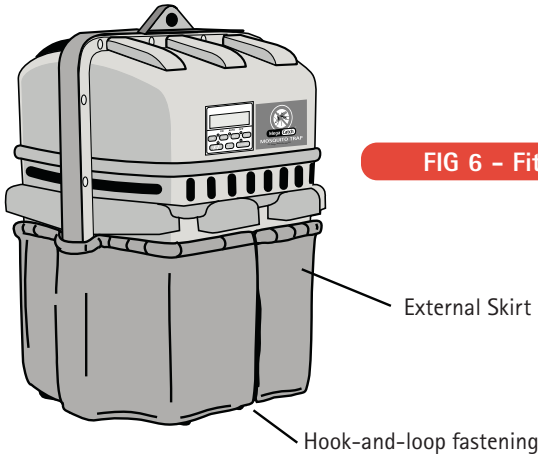

FIG 6 – Fitting External Skirt
3. The Skirt is properly fitted when the elastic band is seated over the lower horizontal rib, just below the inlet holes (see figure 6). The opening in the Skirt should be located at the front of the Trap so as to facilitate removal of the Door without having to remove the Skirt. The hook-and-loop fastening on this opening should be closed when the Trap is running.
3. The Skirt is properly fitted when the elastic band is seated over the lower horizontal rib, just below the inlet holes (see figure 6). The opening in the Skirt should be located
4. Reach inside the Trap and remove the Fan Safety Guard (attached to base of Fan) by turning it counterclockwise (see figure 6).